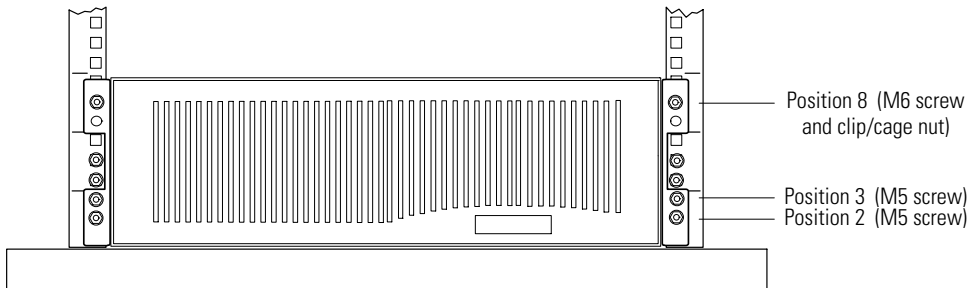

Figure 7. Securing the Front of the EBM
12. Install two cage or clip nuts as shown in Figure 7. If the rack holes are square, use two cage nuts. If the rack holes are round, use two clip nuts.
14. Secure the front of the cabinet to the rack as shown in Figure 7.